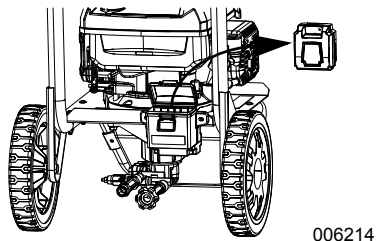

Figure 4-11. Remove Battery
1. Remove battery from box. See Figure 4-11.